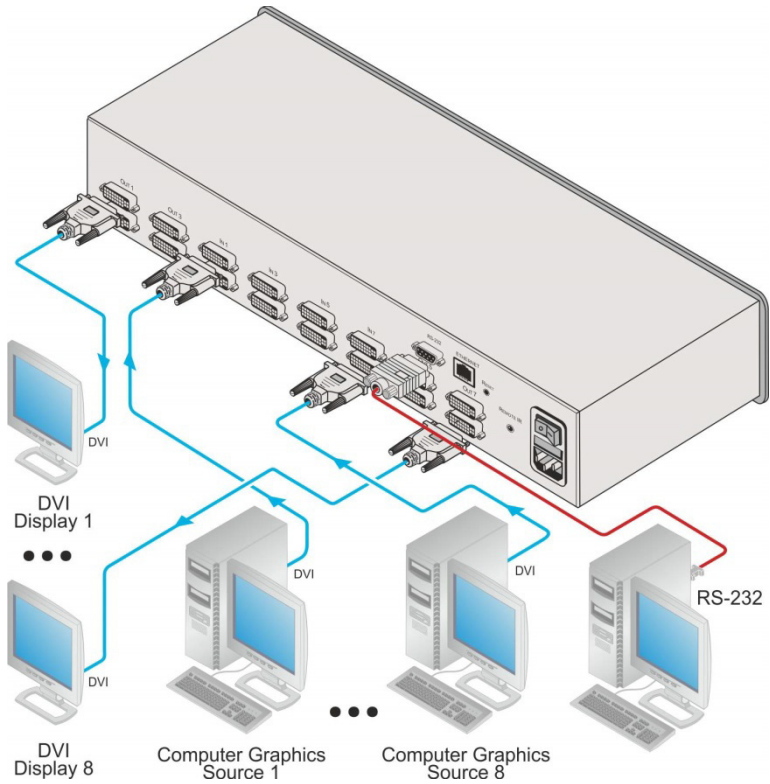

Figure 3: Connecting the VS-88DVI 8x8 DVI Matrix Switcher
To connect the VS-88DVI, as the example in Figure 3 illustrates, do the following:
4. Connect the power cord (not shown in Figure 3).